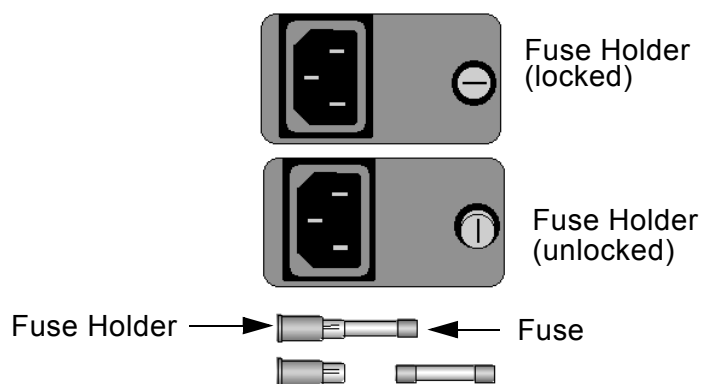

Figure 28. Replacing the Fuses
- 3 Use a flatblade screwdriver to remove the fuse holder (see Figure 28).